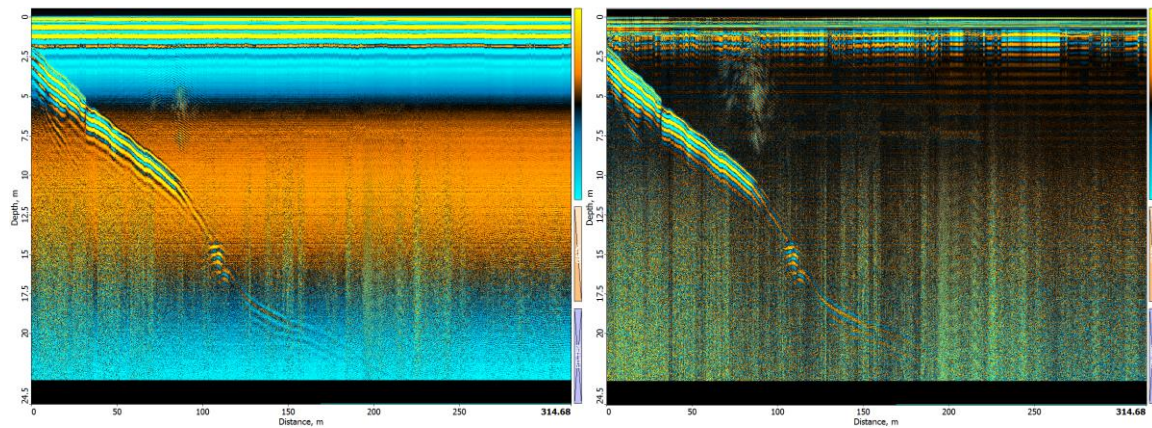

Fig.13.1. Background removal (left - initial profile, right – processed)
-  **Background removal** – one of the most popular and simplest processing, where the name describes itself. It helps to remove the horizontal DC component (DC bias) from the profile. Such bias is the result of sounding conditions. It looks as a “background” or like the horizontal lines which have unchangeable intensity and time position on the profile. Such distortion masks the informative reflected signals. This processing is an efficient tool for the “background” suppression. The processing algorithm is very simple: it processes all traces and calculates the average trace that is subtracting from each trace in profile. User is able to specify the area (window height) wherein background suppression will be applied to avoid the direct wave eliminating. The figure below (Fig. 13.1) shows the data acquired from the surface of lake ice by **Python-3** GPR. These data have a strong low frequency DC bias along the profile that masks the reflected signals from the lake bottom. Processed data lost the DC bias and useful signals increased its contrast as some high frequency noises as well, but its elimination is a task of another processing described below.